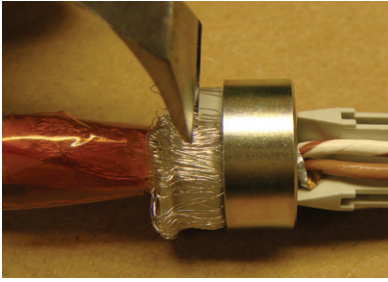

Figure 74: Trimming the braid
22. Using flush cutters, trim the braid wire to just above the lip of the support sleeve (Figures 74 and 75).